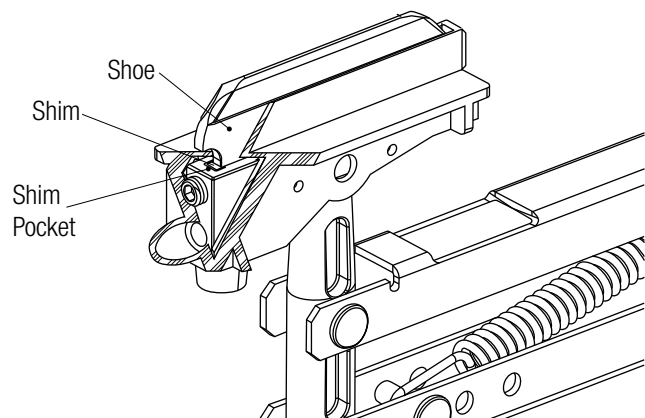

Figure: 23-2
3. Replace shoe with new shoe. Place shim in pocket between setscrew and shoe, and install new shoe into collector head. See **Figure: 23-2**.